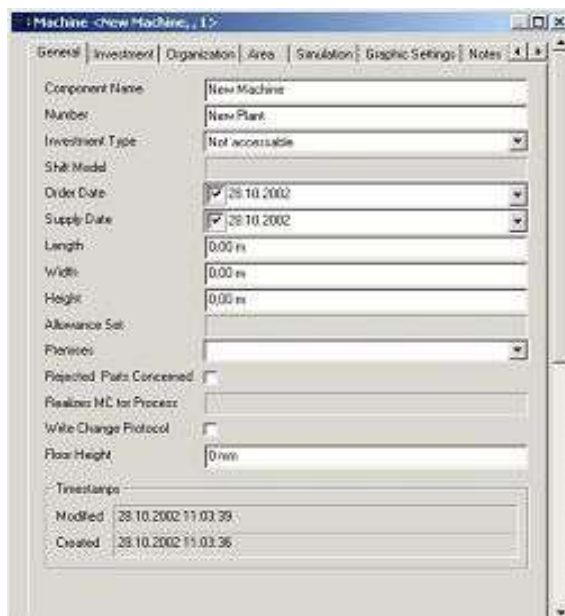

Figure 66: Properties Dialog for the New Layout
- 2) Specify the data for the new layout in the **Properties** dialog. *Please refer to the Figure 66.*